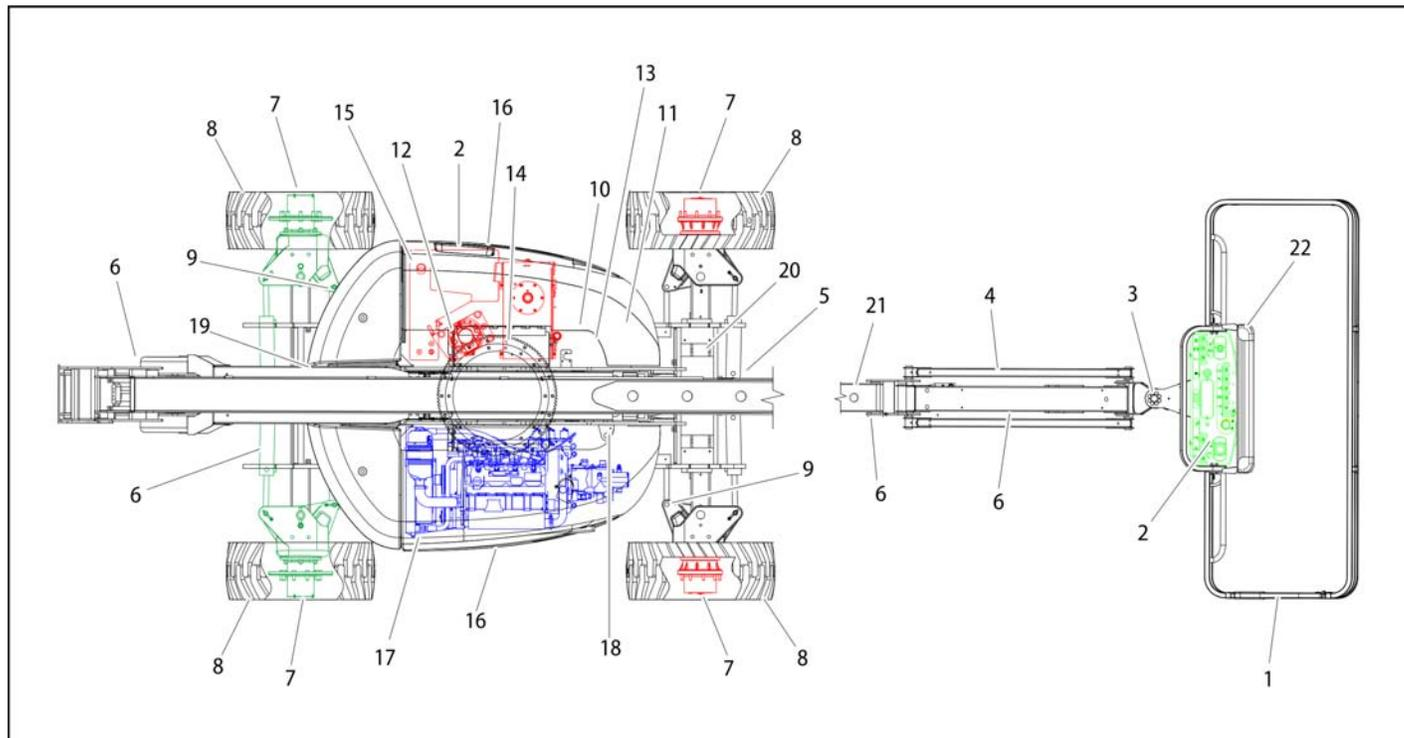

Figure 2-3. Daily Walk-Around Inspection Diagram - Deutz D2011L04
5. **“Walk-Around” Inspection** – Refer to Figure 2-3. thru Figure 2-7.